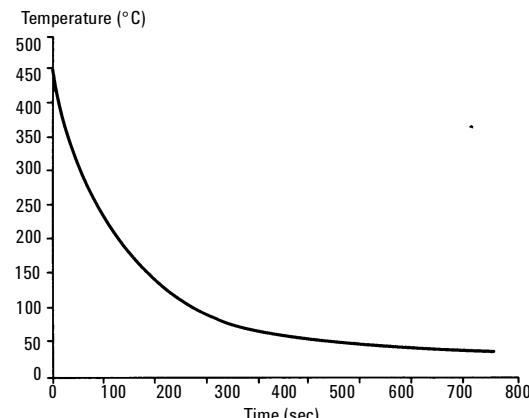

Figure 540-2 Typical oven cool-down
- Cool-down rates: see Figure 540-2. Rates are greater when using the optional oven exhaust deflector or cryogenic cooling.